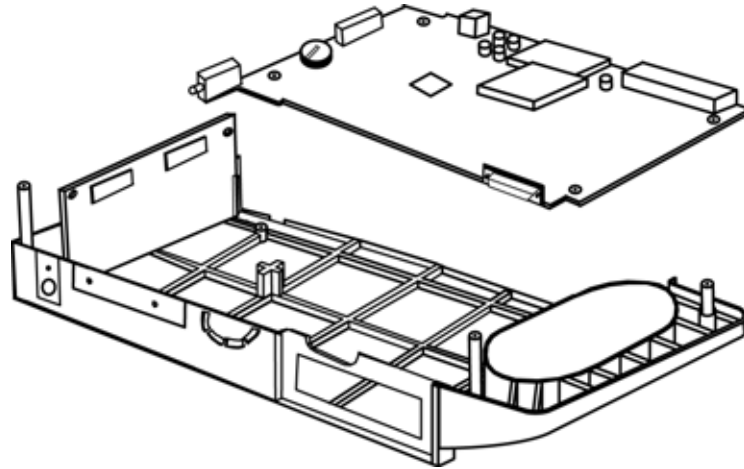

Figure 27: Main PCB Removed
10. Disconnect the main PCB to front PCB cable from the main PCB connector item 2.
12. Carefully lift the main PCB out of the top case. See Figure 27.